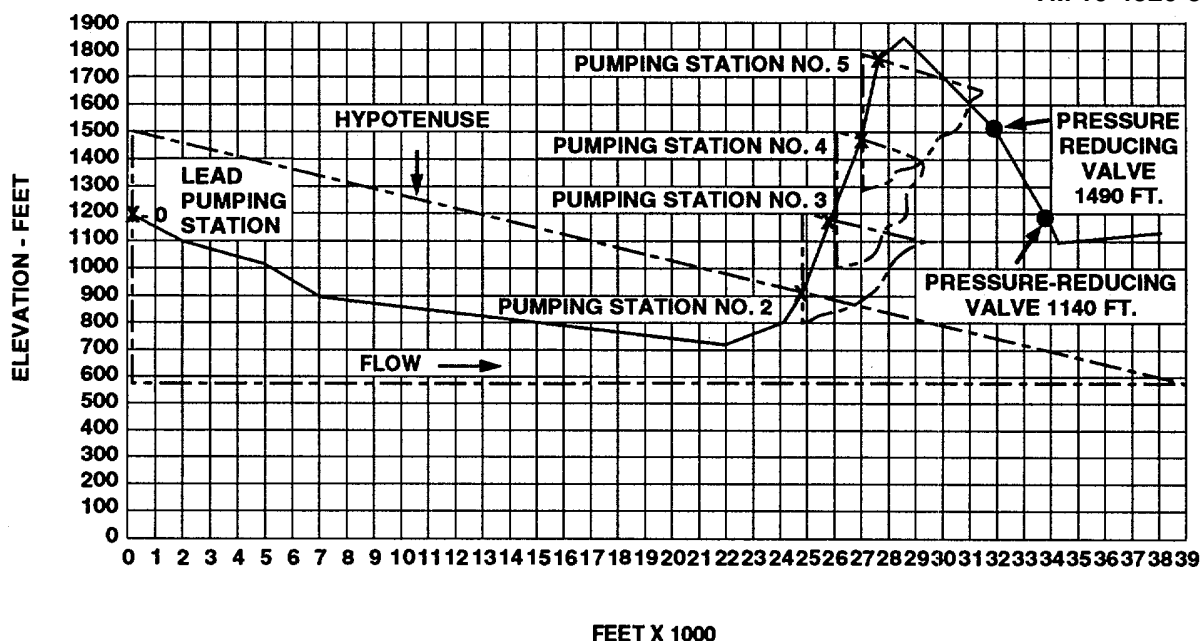

Figure 2-10. First Boost Pumping Station Location.
2.3.1.7 Determining Location of First Boost Pumping Station. Using ground profile graph and pump spacing triangle, refer to figure 2-10 and determine first boost pumping station as follows: